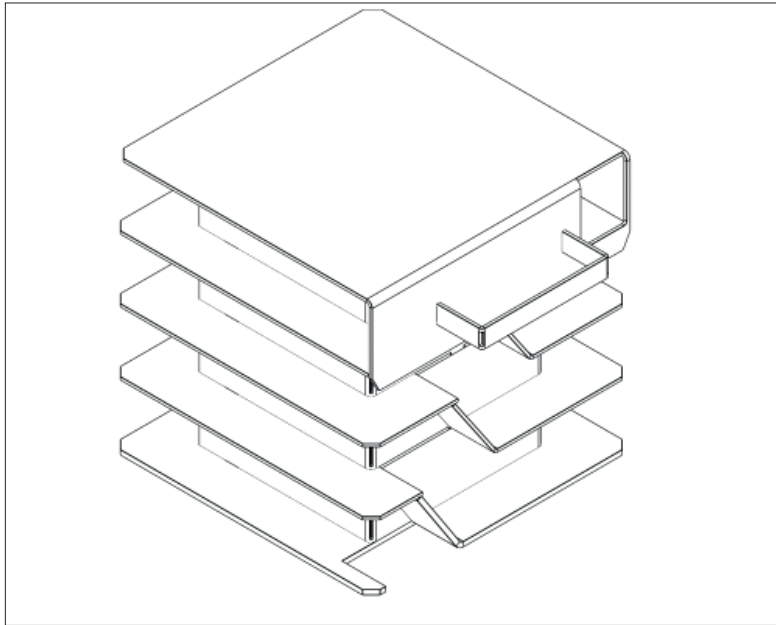
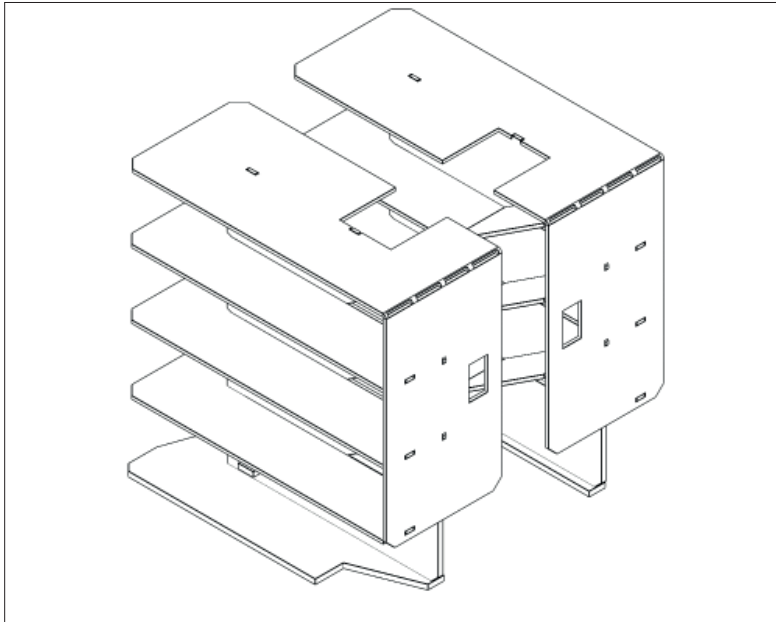
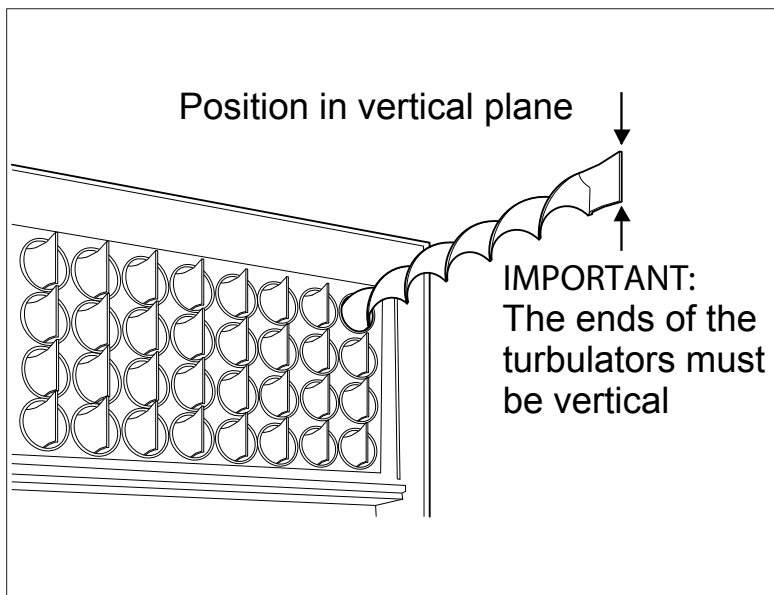

Figure 11-1: Baffles (15/21 & 21/26 models)
Figure 11-2: Baffles (26/35 models)
Figure 11-3: Turbulators
2. Remove the baffles as shown in Figure 11-1 and Figure 11-2.
6. Replace the baffles, ensuring they are correctly fitted. Refer to Figures 11-1 and 11-2, as appropriate. Pull out the spiral turbulators from the heat exchanger tubes. See Figure 11-3.